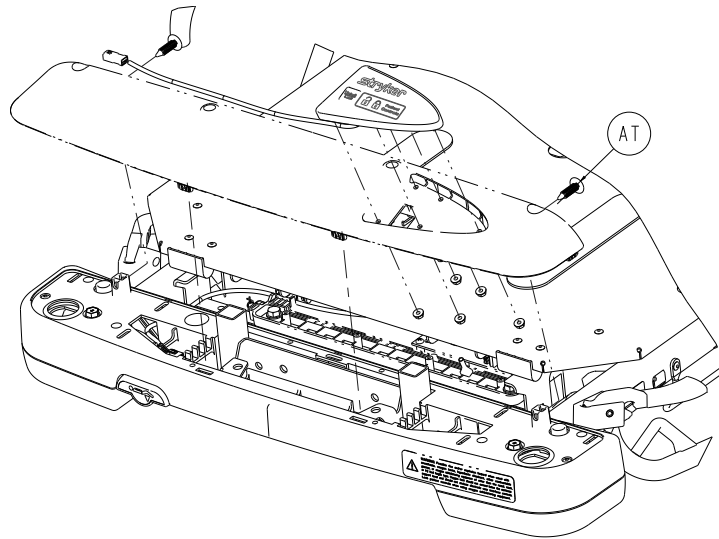

Figure 48 – Panel fasteners
6. Using a plastic fastener removal tool, remove the two panel fasteners (AT) that secure the foot end top cover to the foot end mid cover (Figure 48). Discard the panel fasteners.